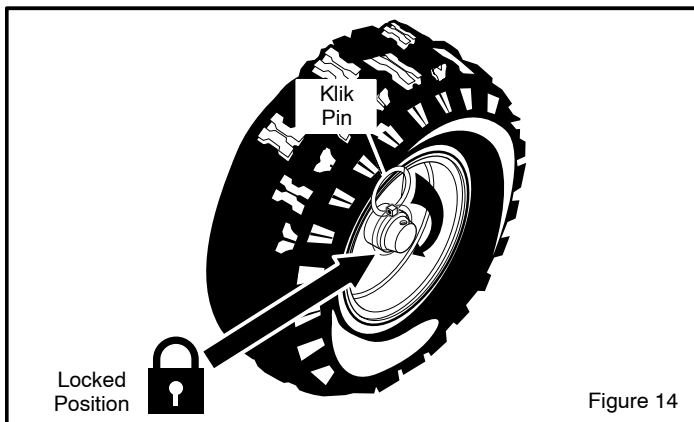

Figure 14
1. The right wheel is secured to the axle with a klik pin. This unit was shipped with this klik pin in the locked position. (Figure 14).